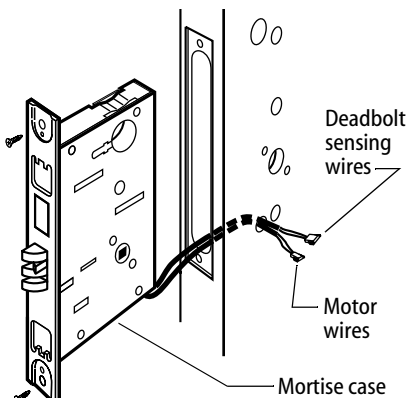

Figure 7
- 2 Install the lock while feeding the motor wires and deadbolt sensing wire (deadbolt function only) into the mortise cavity and out through the inside hole as shown in Figure 7.